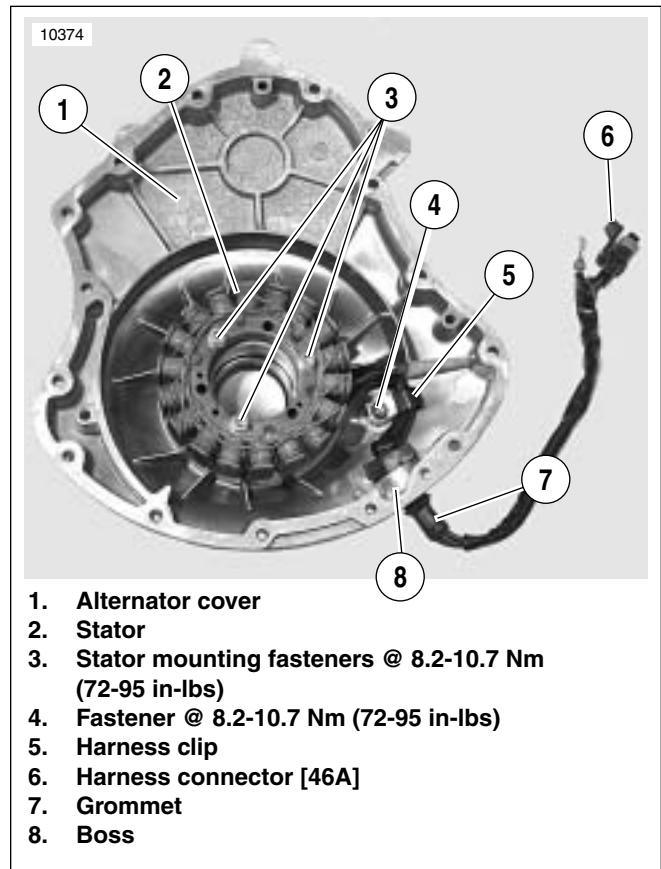
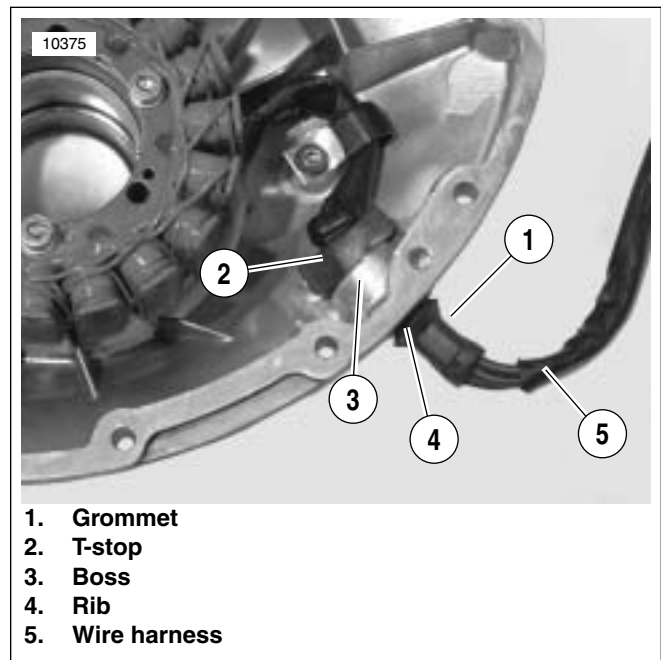

Figure 8-14. Removing Stator from Alternator Cover
Figure 8-15. Stator Wiring Harness Grommet
1. Remove three wire leads from connector [46A] (6). Insert a pick (Snap-on TT600-3) into square under locking tang and pivot end of pick toward terminal to depress the locking tang. Gently pull on wire to pull terminal from wire end of connector (6).
2. See Figure 8-14. Remove fastener (4) and wire harness clip (5) from alternator cover (1).
3. Remove stator mounting fasteners (3) and captive washers from stator (2). Remove three stator mounting fasteners (3) and pull stator straight up out of alternator cover (1). Note orientation of slot in cover stator hub and clip on stator.
4. Using point of awl, carefully press rib on grommet (7) away from crankcase and then insert awl into bore between grommet and casting.
6. See Figure 8-15. While pushing on rib (4) from outside of crankcase, draw grommet (1) through bore by pulling on T-stop (2). Rock grommet back and forth to facilitate removal. Exercise caution to avoid damaging rib on grommet if stator is to be reused.
7. Draw stator wire harness (5) and socket terminals through crankcase bore. For best results, feed one wire and socket terminal at a time.
2. See Figure 8-15. From inside cover, feed socket terminals and stator wire harness (5) through boss (3) on cover wall. For best results, feed one wire and socket terminal at a time.
3. Lubricate grommet (1) with isopropyl alcohol or glass cleaner. Grommet must be clean and free of dirt and oily residue.
4. Grasp T-stop (2) behind grommet (1). Push grommet (1) into bore in boss (3) while carefully pulling on outside wire harness (5). Installation is complete when T-stop (2) contacts boss (3) and rib (4) exits crankcase bore.
5. See Figure 8-14. With stator (2) oriented to cover (1) so that wire harness exits alternator cover at approximately 3 o'clock, line up three fastener holes in stator with holes in alternator cover (1).
6. Install three stator mounting fasteners (3) and alternately tighten to 8.2-10.7 Nm (72-95 **in-lbs**).
7. Install harness clip (5) over wire harness into alternator cover. Secure with fastener (4). Tighten to 8.2-10.7 Nm (72-95 **in-lbs**).